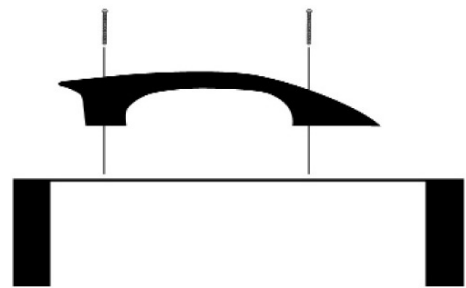

Figure 3. Handle Installation
3. With a flat tip screwdriver, securely tighten both screws. (see Figure 3)